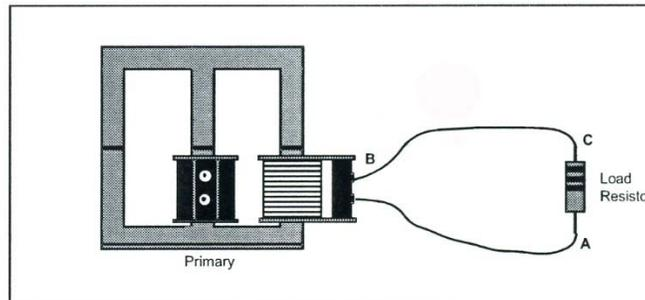

Fig. 5: secondary circuit with load resistor.
18. Add a load resistor of  $100\ \Omega$  to the secondary coil to complete the secondary circuit as shown in Fig. 5. Use a breadboard for small components like the resistor.